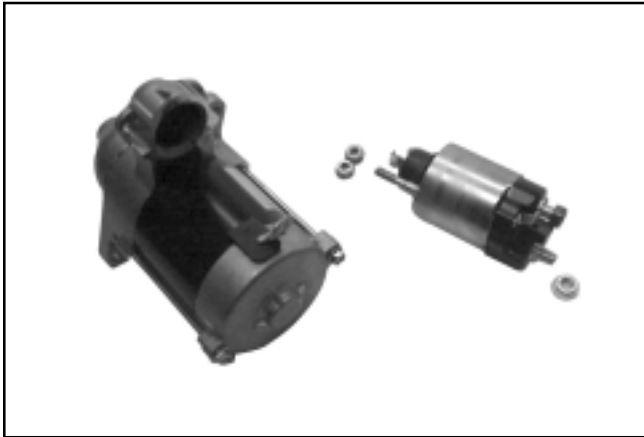

Figure 8-47. Starter with Solenoid Removed.
2. Remove the two hex. flange nuts securing the solenoid, and carefully separate the solenoid from the starter assembly (the front end of solenoid must be lifted slightly to permit disengagement from drive lever in starter). See Figure 8-47.